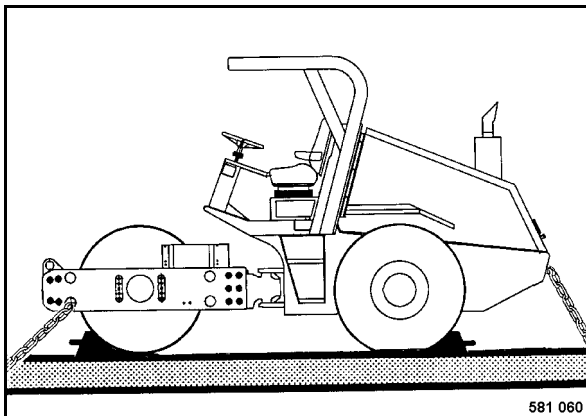

Fig. 54
- Lash the machine on the transport vehicle (Fig. 54), use the four lashing eyes on front and rear frame for this purpose.